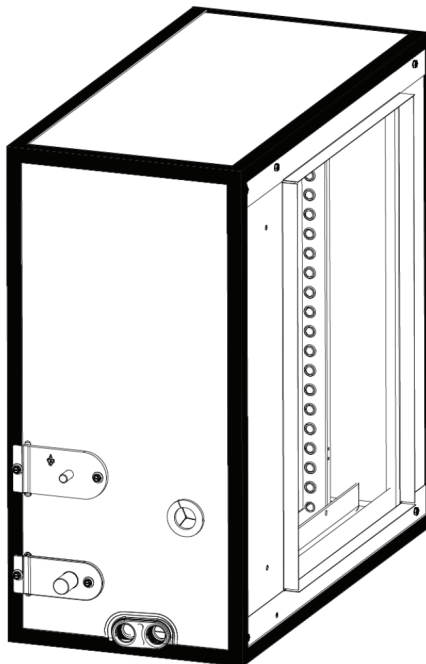

Figure 11
**IMPORTANT NOTE:** To prevent cabinet sweating and airflow leak, apply field provided insulation tape along all joining surfaces between the coil, gas furnace, duct work and panels. See Figure 11.